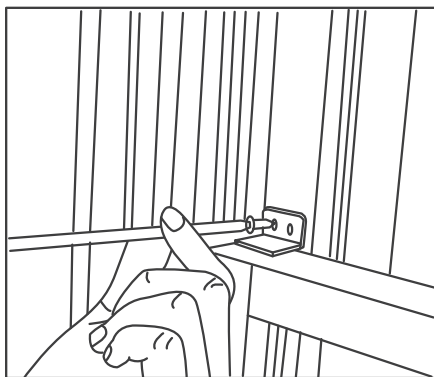

Fig.11
- 6 To secure lower sash in place, attach right angle sash lock with 3/4" (19 mm) screws as shown (Fig.11).